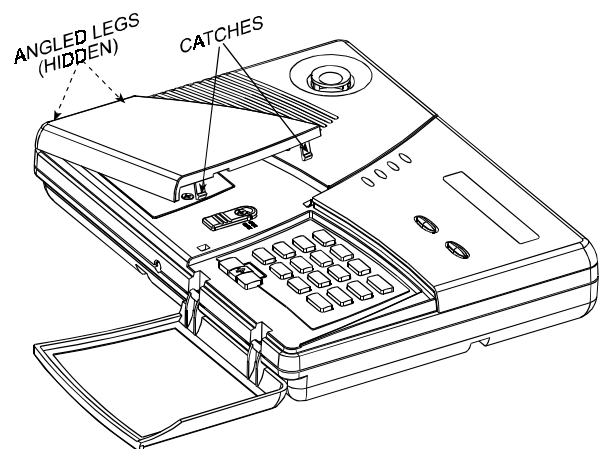
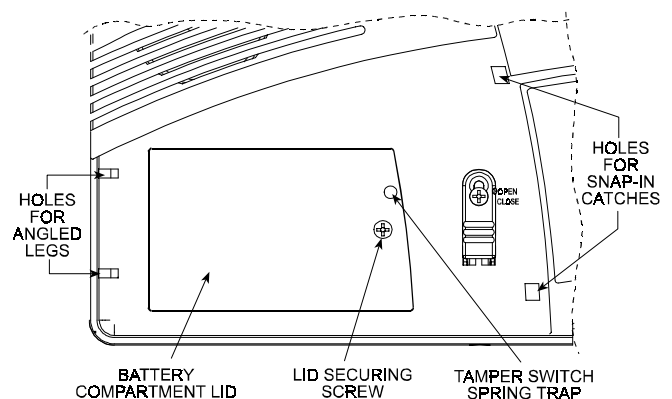
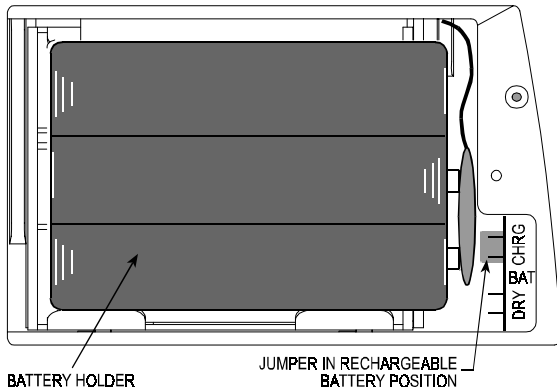

Figure 2. Removing the Battery Area Cover
Figure 3. Battery Area after Cover Removal
Figure 4. Battery Type Selection Jumper
C. Swing the cover up as shown in Figure 2, then pull free the angled legs at the left and put the cover away. The inner lid will now be in full view (see Figure 3).
- D. Remove the screw that secures the lid (see Figure 3), swing the lid up and pull it away. You now have access to the battery holder (see Figure 4).
- E. Pull out the battery holder and check that the battery type selection jumper is positioned in accordance with the type of batteries being installed (see Figure 4). For alkaline (dry) cells, the jumper should be mounted on the two lower pins. For Nickel Cadmium (rechargeable) cells - on the two upper pins.